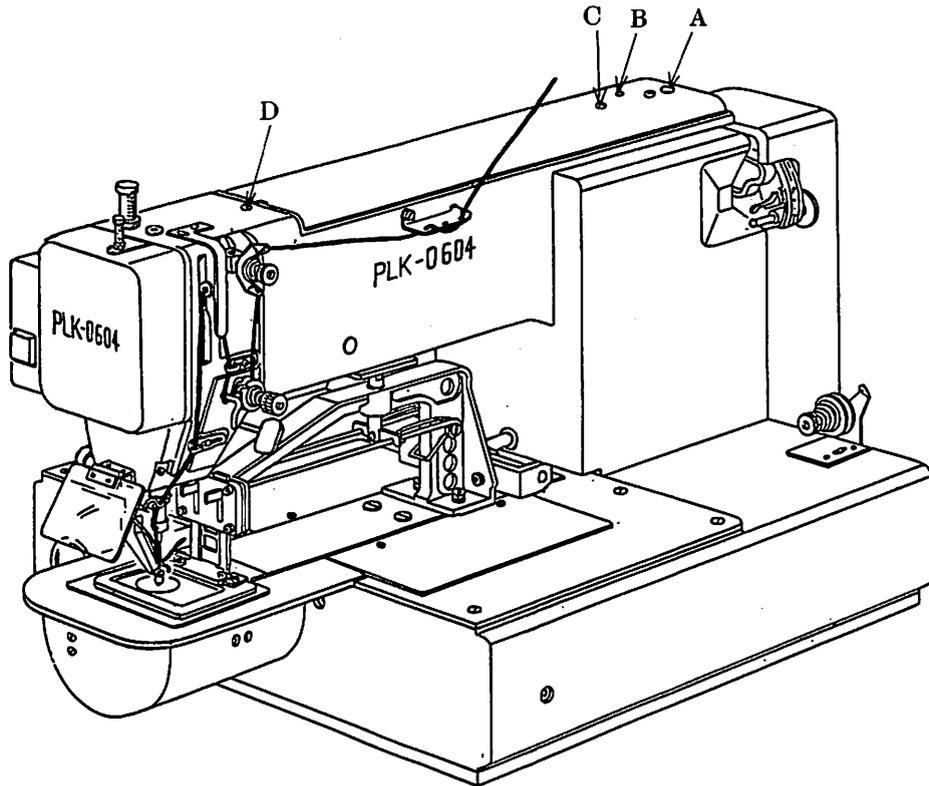

Fig. 9.2
The needle thread should be threaded, as shown in Fig. 9.2, with the thread end extended about 4 cm from the needle.
- (1) Apply several drops of lubricating oil to "A", "B", "C" and "D" shown in Fig. 9.2 everyday.